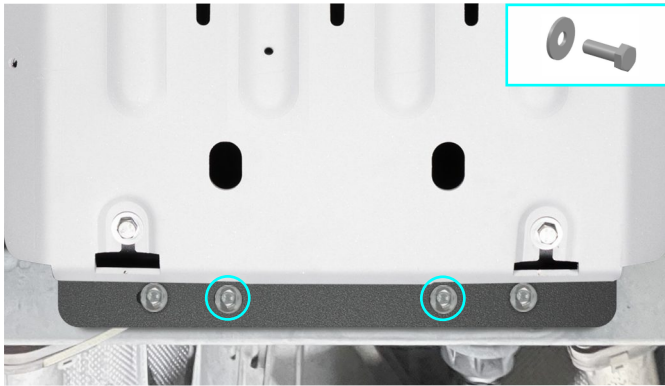

Fig. 6
6. Loosely insert supplied bolts M10x30 with penny washers M10 (items C, D) to rear bracket of RIVAL gearbox skid plate (fig.6).